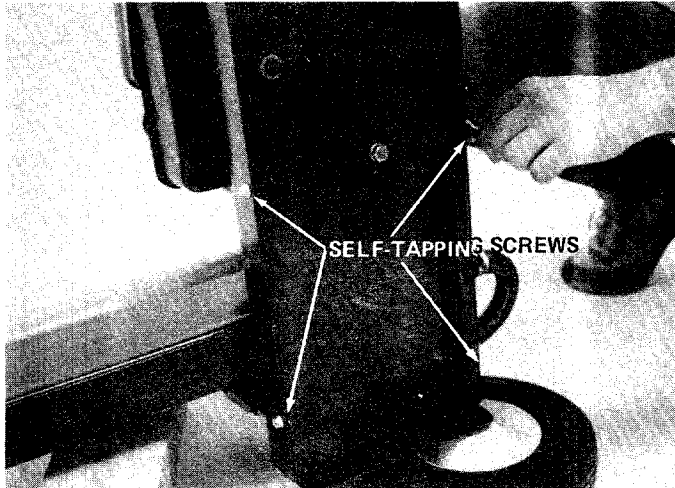

FIGURE 18
4. Remove four self-tapping screws from the bottom belt cover and frame. See figure 18.